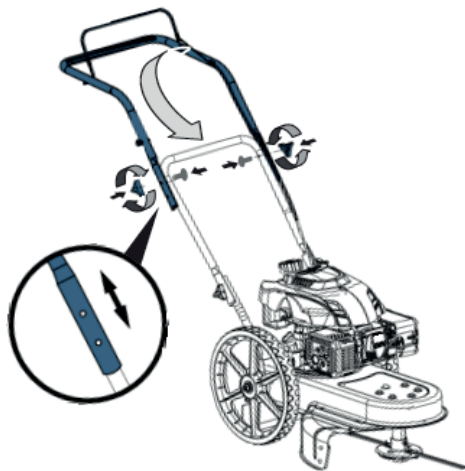

Figure 3-2
2. Position the upper handle in the desired position, then secure it to the middle handle. (See Fig. 3-2)